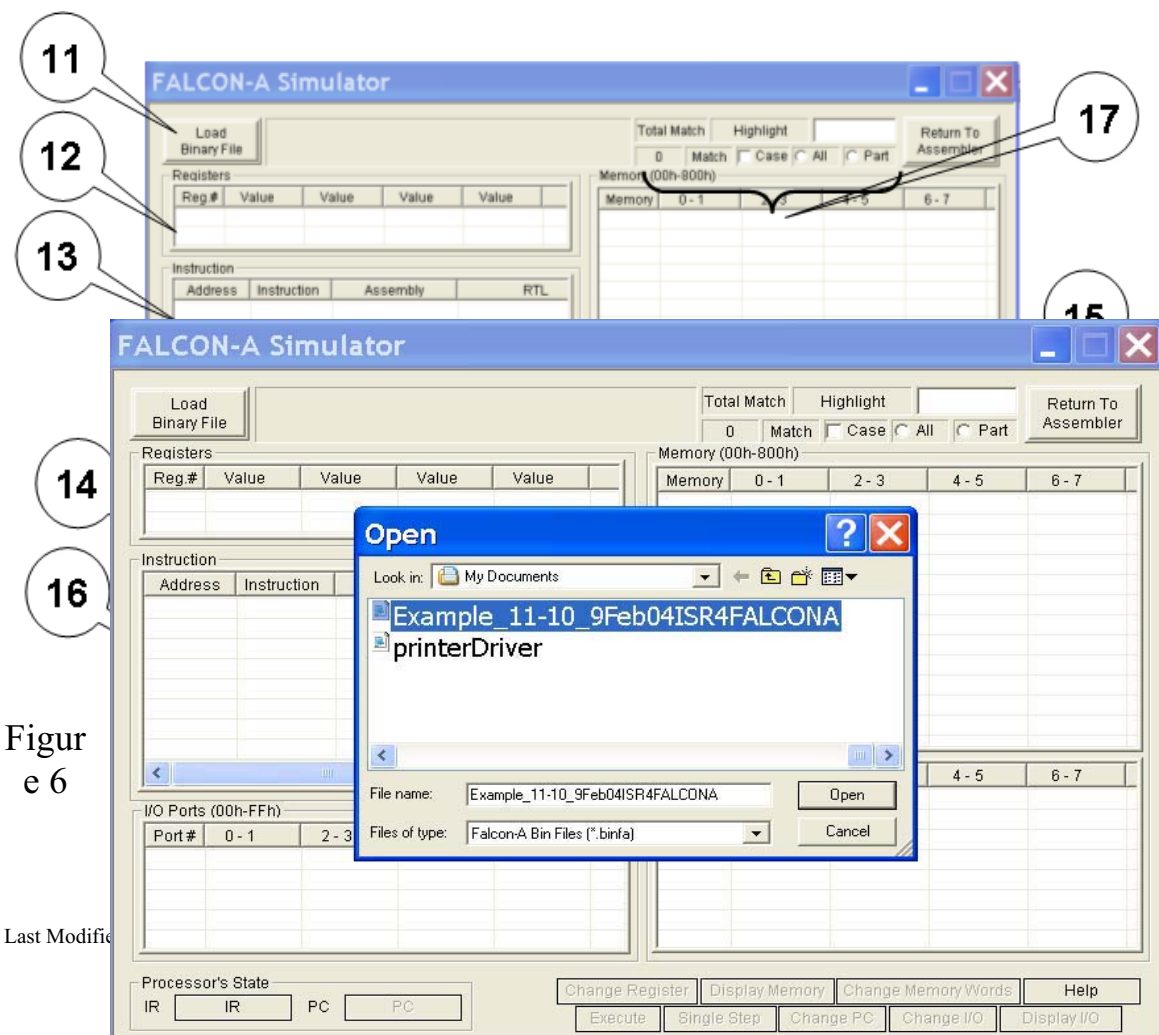

Figure 6
Figure 6 shows a snapshot of the FALCON-A Simulator. This tool loads a FALCON-A binary file with a (.binfa) extension and presents its contents into different areas of the simulator. It allows the user to execute the program to a specific point within a time frame or just executes it, line by line. It also allows the user to view the registers, I/O port values and memory contents as the instructions execute.
*Load Binary File:* The button labeled as “11” in Figure 6, allows the user to choose and open a FALCON-A binary file with a (.binfa) extension. When a file is being loaded into the simulator all the register, constants (if any) and memory values are set.
*Registers:* The area labeled as “12” in Figure 6. enables, the user to see values present in different registers before during and after execution.
*Instruction:* This area is labeled as “13” in Figure 6 and contains the value of PC, address of an instruction, its representation in Assembly, the Register Transfer Language, the op-code and the instruction type.
*I/O Ports:* I/O ports are labeled as “14” in Figure 6. These ports are available for the user to enter input operation values and visualize output operation values whenever an I/O operation takes place in the program. The input value for an input operation is given by the user before an instruction executes. The output values are visible in the I/O port area once the instruction has successfully executed.
*Memory:* The memory is divided into 2 areas and is labeled as “15” in Figure 6, to facilitate the view of data stored at different memory locations before, during and after program execution.
*Processor’s State:* Labeled as “16” in Figure 6, this area shows the current values of the Instruction register and the Program Counter while the program executes.
*Search:* The search option for the FALCON-A simulator is labeled as “17” in Figure 6. This feature is similar to the way the search feature of the FALCON-A Assembler works. It offers to highlight the search string which goes as an input, with the “All “ and “ Part “ option. The results of the search are highlighted in the color yellow. It also indicates the total number of matches.
The following is a description of the options available on the button panel labeled as “18” in Figure 6.
- To start the simulator, click on the start simulation button labeled as “6”. This will open the dialog box shown in Figure 6.